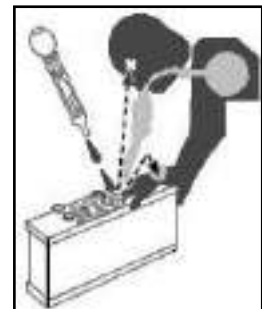

Fig. 28
- In case of electrolyte ingestion, immediately drink plenty of water and magnesium milk, scrambled eggs or vegetable oil and seek immediate medical attention (Fig. 28).